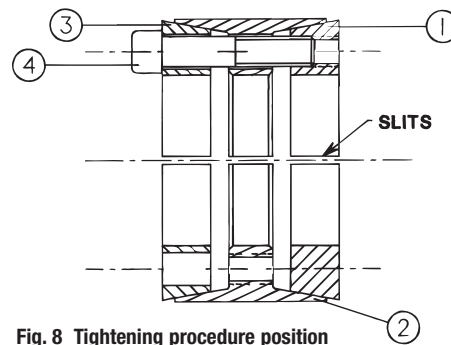

Fig. 8 Tightening procedure position
3. Place locking assembly on shaft and into hub bore to desired position. Remove the screws from the push-off threads and screw them back into the original threaded holes of the rear thrust ring ① as shown in Fig. 8.
Used Locking Assemblies must be cleaned, lightly oiled and re-assembled as shown in Fig. 8. That means the slits of the front ③ and rear ① thrust rings as well as the outer ring ② have to be lined up and the clearance holes of the front and outer ring must be opposite the threaded holes of the rear thrust ring.